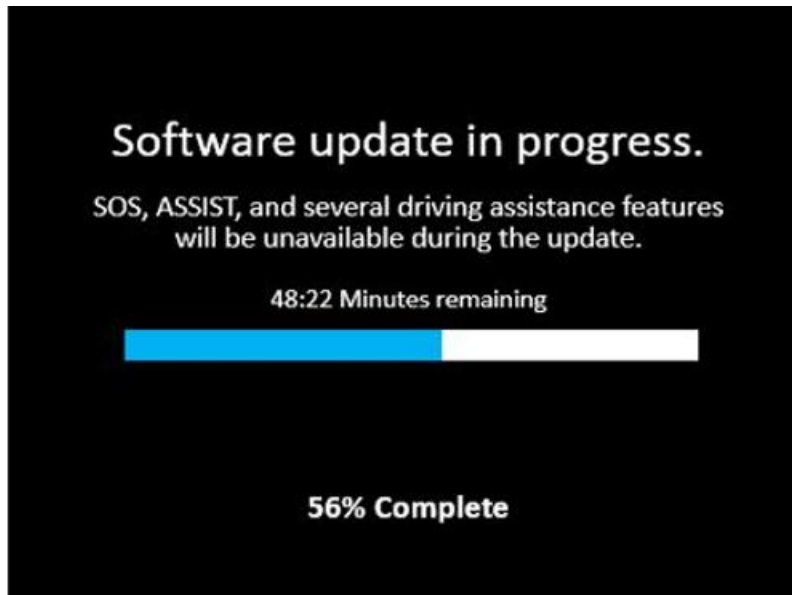

Fig. 8
14. The radio will reboot and the update will begin. The update should only take 25 minutes, the timer on the screen may display the incorrect time remaining, (Fig. 8) .